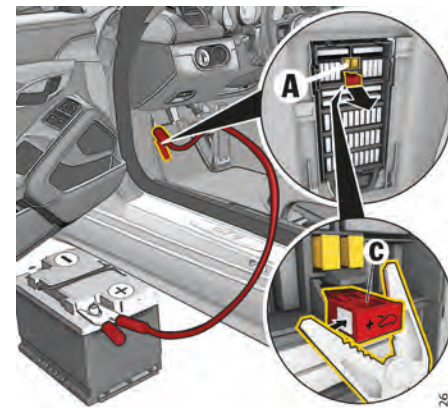

Fig. 11: Emergency release of the trunk lid – connect positive terminal
8. Insert positive terminal **C** (Fig. 11) in the fuse box and attach the plastic cover of the fuse box.